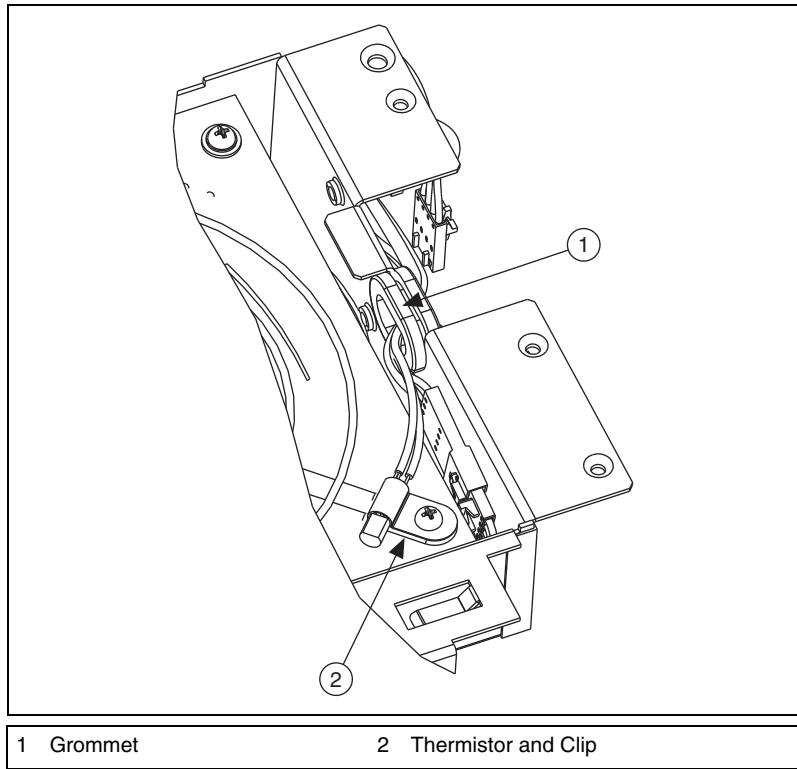

Figure 8. Thermistor Location and Orientation
8. Insert three of the four screws with the flat washers closest to the fan and the split spring washers closest to the screw heads. The fourth screw does not use washers, but instead anchors the thermistor. Insert the fourth screw through the thermistor clip hole and orient the thermistor as shown in Figure 8.